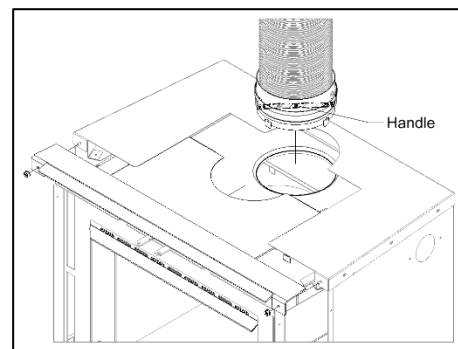

Figure 3-8: Circulating Chamber Top Removable Bracket
- Align the liner adaptor with the top opening of the circulating chamber. Note that the top/front portion of the circulating chamber can slide off to allow for better access to the liner adaptor – unfasten the #8-32 serrated flange nuts (2X) on the front bracket (Figure 3-8).